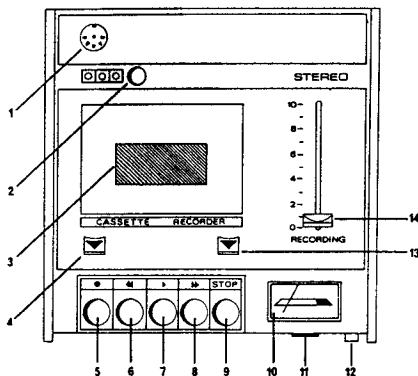

FIG. 6.
(See Fig. 6)
Insert the microphone plug into socket (1) (Fig. 6).